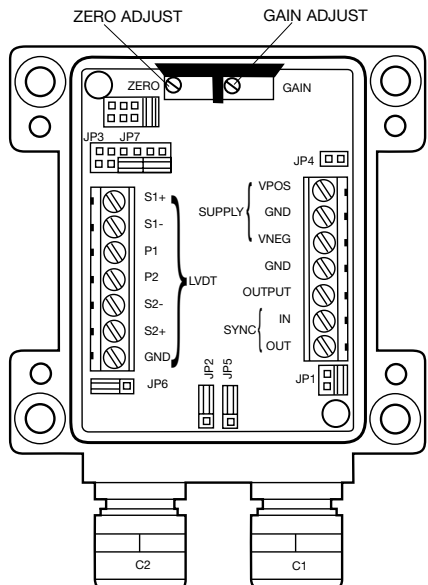

Fig. 1
- With the lid removed, unscrew the cable glands **C1** & **C2** (Fig.1). Pass the power supply/output signal cable through gland **C1** into 'SUPPLY' zone on UCM board. Connect the power supply and output connections to the terminals on the UCM board, as indicated below and shown in Fig.1.
- Pass the transducer cable through gland **C2** into 'LVDT' zone on UCM board. Connect the transducer to the terminals on the UCM board, as indicated below (based on transducer type) and shown in Fig.1.